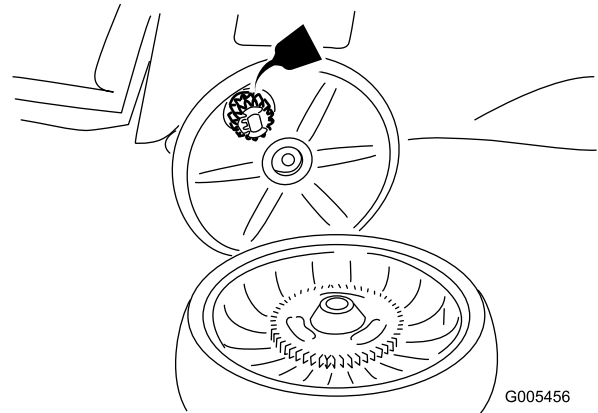

Figure 31
2. Apply a lubricating oil to the inner and outer sides of the gear as shown in Figure 31.